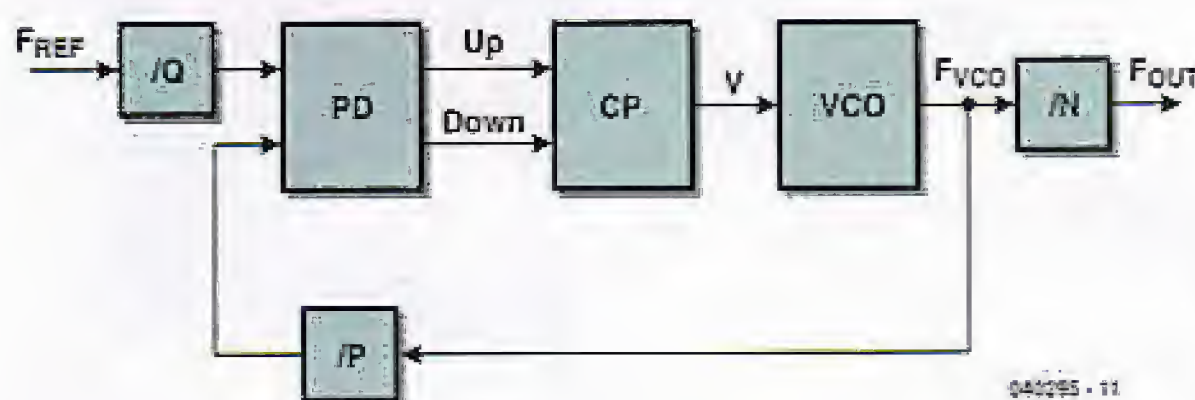

Figure 1. The PLL principle with feedback divider.
The clock generator chips contain a Phase Locked Loop (PLL) with the fastest versions having an output frequency range from 100 MHz to 400 MHz. The PLL layout is shown in **Figure 1**. It differs from a standard PLL by having programmable dividers at the input and output and in the feedback path. The input clock F_{REF} (typically a crystal) is connected to a programmable divider Q . This clock signal is now compared in the Phase Detector (PD) with the output frequency from the Voltage Controlled Oscillator (VCO) divided by P and fed to the Charge Pump (CP). The CP output is a function of the phase difference and controls the VCO. The VCO output is passed through the output divider N to produce F_{OUT} . Altogether